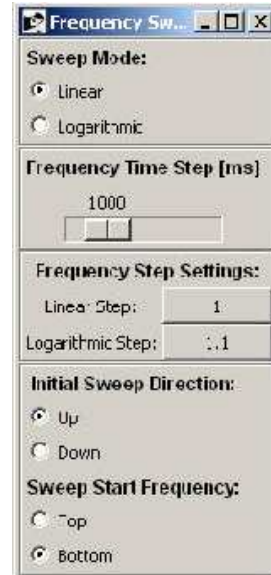

Figure 3: Sweep Mode Control Panel
3. Click on the Sweep Settings button to open up the Frequency Sweep Settings control panel, figure 3.